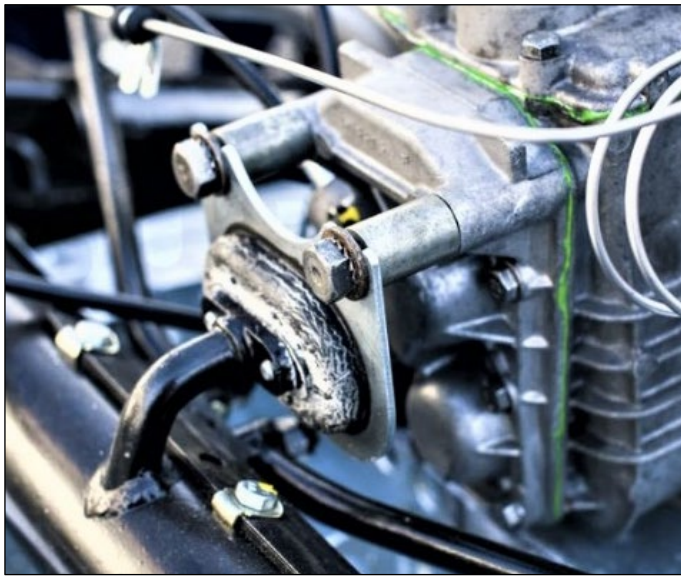

Fig. 5-4 Rear Mount
Check the orientation of the rear engine/gearbox mount in your 2CV. See Fig. 5-3 at left and Fig. 5-4 below. When looking from the side of the rear mount per Fig. 5-3, the rubber thickness with dimension *A* may be a few millimetres greater than the rubber thickness with dimension *B*.
- d. Unscrew the two long rear gearbox bolts at the rear mount by 10mm. The bolts are shown near the centre of Fig. 5-4.
h. Lower the jack and allow the two long bolts to settle back into the slots in the rear mount, ensuring both washers remain on the bolt head side of the mounting bracket as in Fig. 5-4.